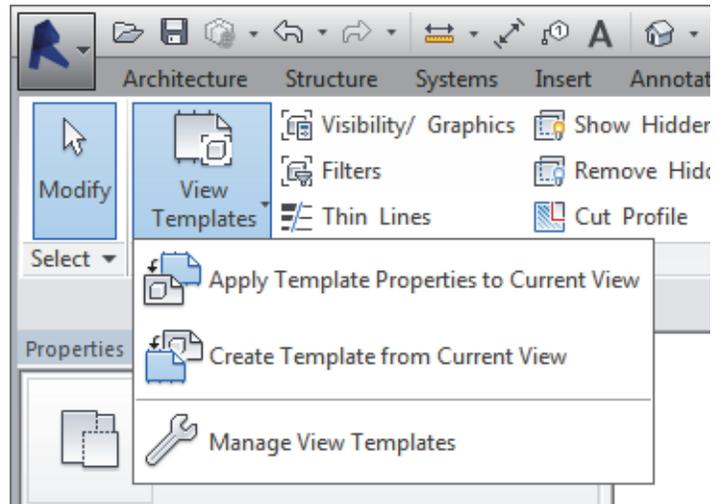

Figure 1–110
5. Which of the following parameters are included in a View Template (as shown in Figure 1–110)? (Select all that apply.)